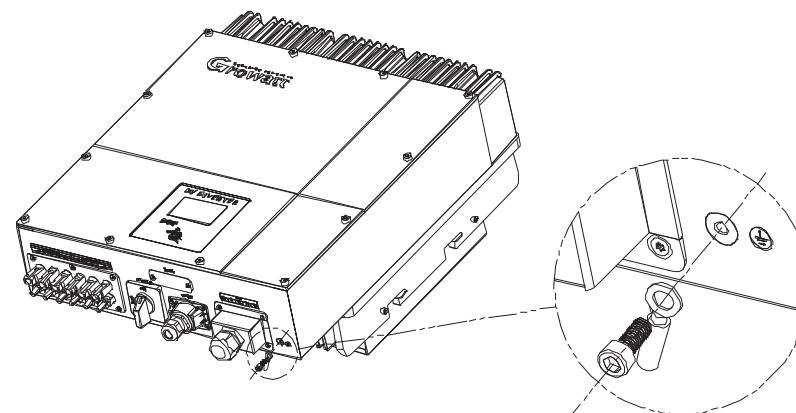

Fig 5.6
- Connect the inverter to the earth. Please reference in Fig5.6.